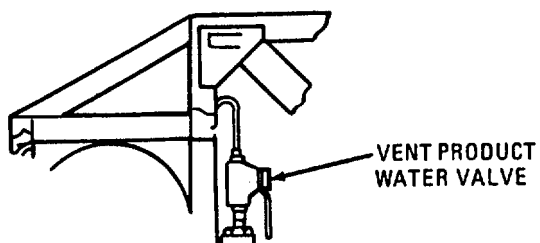

FIGURE 2-39. VENT PRODUCT WATER VALVE
5. VENT PRODUCT WATER (see figure 2-39)